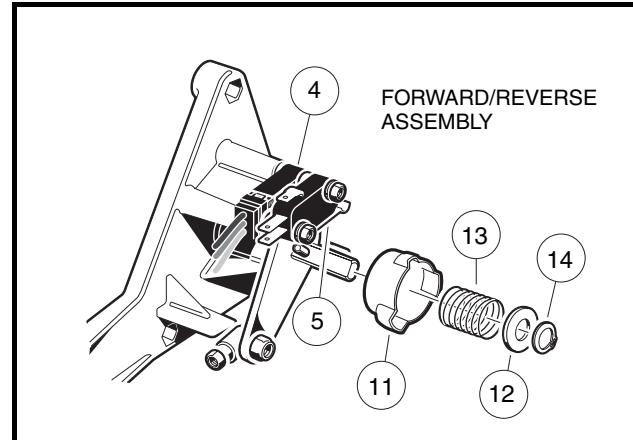

Figure 12-21 Lockout Cam
3. Remove the external snap ring (14) (**Figure 12-21, Page 12-18**).
4. Remove the plastic washer (12) and the spring (13).
5. Remove the cam (11).
1. Install the cam (11) (**Figure 12-21, Page 12-18**).
2. Install the spring (13) and the plastic washer (12).
3. Install the external snap ring (14) into the groove on the shaft. The lockout limit switch should be activated only when the Forward/Reverse handle is in NEUTRAL.